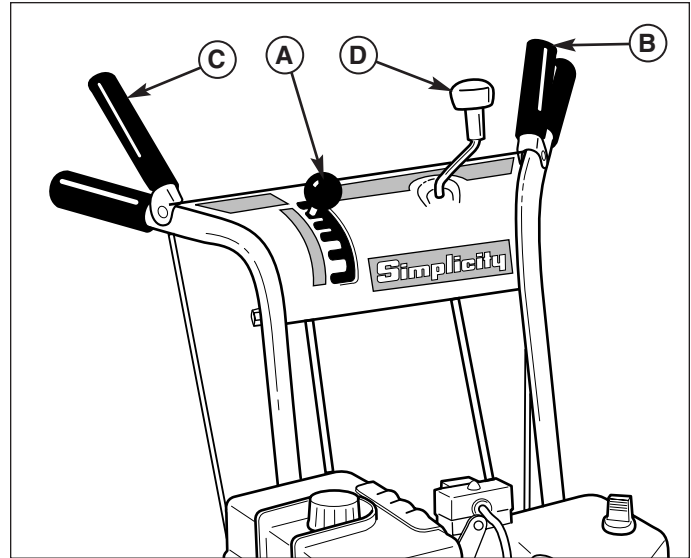

Figure 5. Operator's Control Position
3. Fully press and hold the auger control (C, Figure 5) on the right-hand grip to begin auger rotation. To disengage the auger, completely release the lever.
4. Fully press and hold the traction drive control lever (B, Figure 5) on the left-hand grip to engage the traction drive and begin moving the snowthrower. To disengage the traction drive, completely release the lever.
5. Select forward or reverse speeds as needed using the speed selector (A, Figure 5). Release the drive control lever whenever changing drive speeds.
Use the speed selector (A, Figure 5) to control the drive speed of the snowthrower. There are five forward speeds and two reverse speeds.
To change speeds, first release the traction drive control lever (B, Figure 5), then move the speed selector to the desired speed setting. Fully press the traction drive control lever to resume operation.